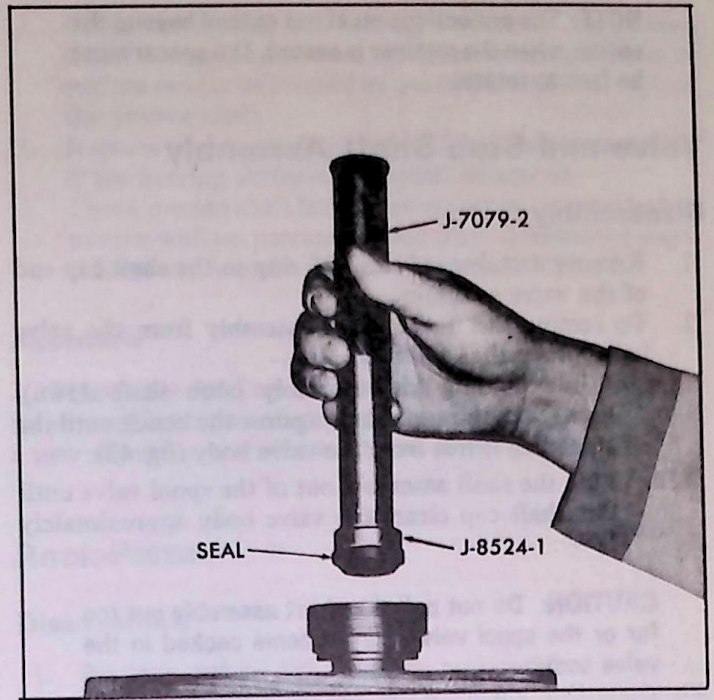

Fig. 41-Installing Adjuster Plug Seal
2. Place dust seal and a new oil seal on Tool J-8524-1 (lip of seal away from tool). Lubricate seal with Power Steering Fluid and drive or press seals into adjuster plug until seated (fig. 41).